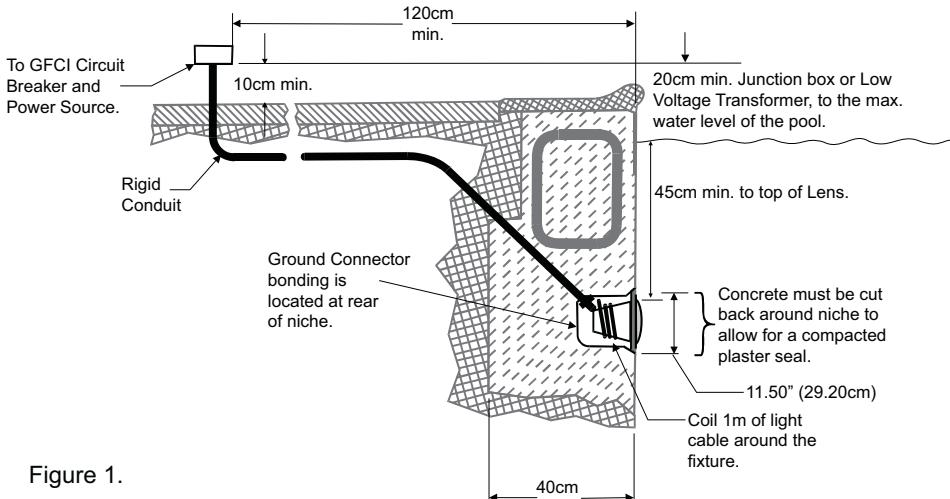

Figure 1.
- The low voltage transformer (12VAC) is located at least 20 cm above ground level and at least 1.2meter from the edge of the pool; see Figure 1.
- The wet niche is properly installed so that the top edge of the underwater light's lens is at least 45cm below the surface of the water in the pool; see Figure 1.
- The wet niche is properly electrically bonded and grounded via the No. 8 AWG ground connector located at the rear of the niche; see Figure 1.
6. Leave at least 1meter of cord to coil around the light fixture; see Figure 1. This 1 meter of cord coiled around the light allows the light to be serviced after the pool is filled with water.
BEFORE STARTING: The following steps 1-7 describe the tasks that must be completed by the electrician before the IntelliBrite light fixture is installed. See Figure 1 diagram.
- The low voltage transformer (12VAC) is located at least 20cm above the maximum water level of the pool and at least 1.2meter from the edge of the pool; see Figure 1.
1. Feed cord through conduit to Junction Box, leaving at least 1.2 meter of cord at the light fixture to coil around the light (this allows the light to be serviced after the pool is filled with water). See Figure 1.
21. Coil at least 1 meter of cord around the light fixture (see Figure 1). This allows the light to be serviced after the pool is filled with water.